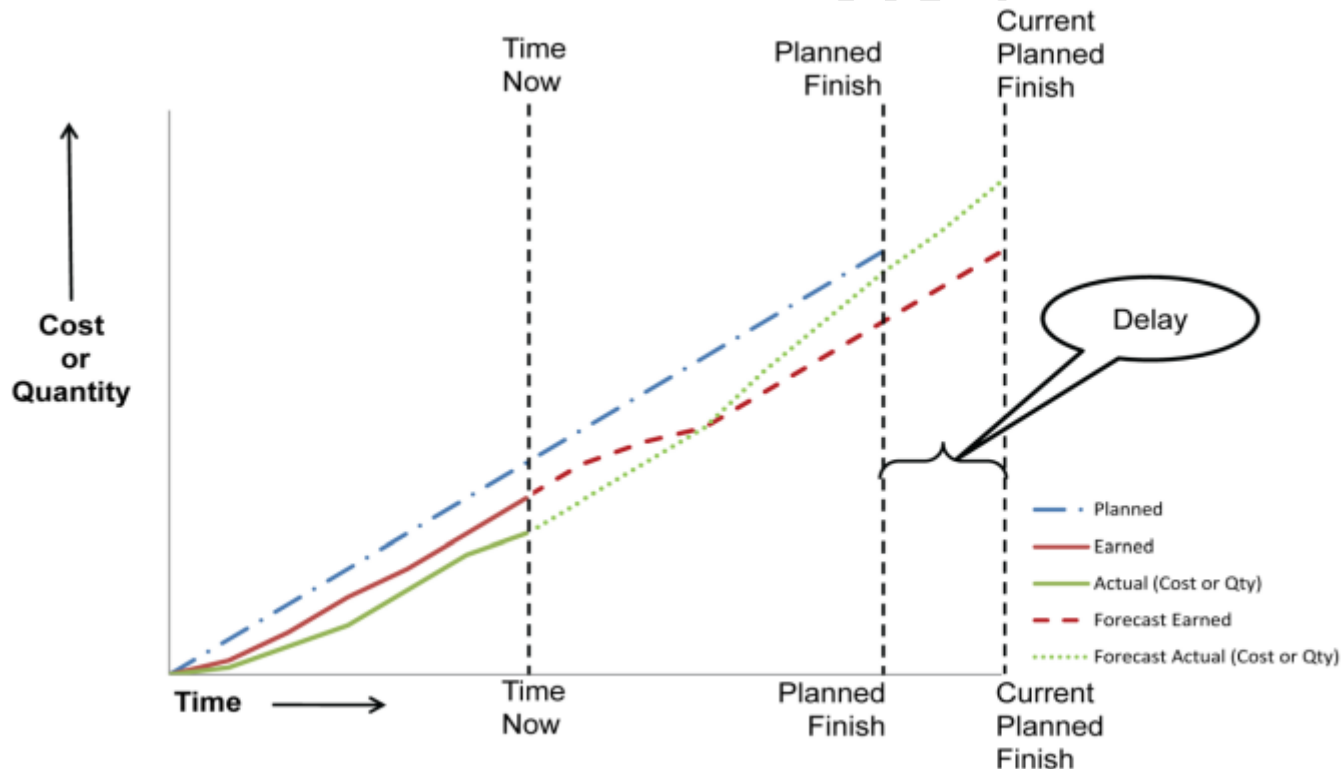

Figure 7 – Earned Value S-Curve
- ❑ Figure 7 depicts a hypothetical situation where a known **problem** and its **projected impact** are being considered.